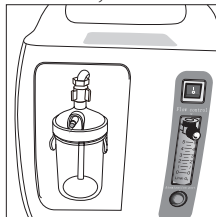

Figure 4
B. Lock the humidifier into the recess, then connect the oxygen outlet port to the top of the humidifier, as shown in Figure 4.